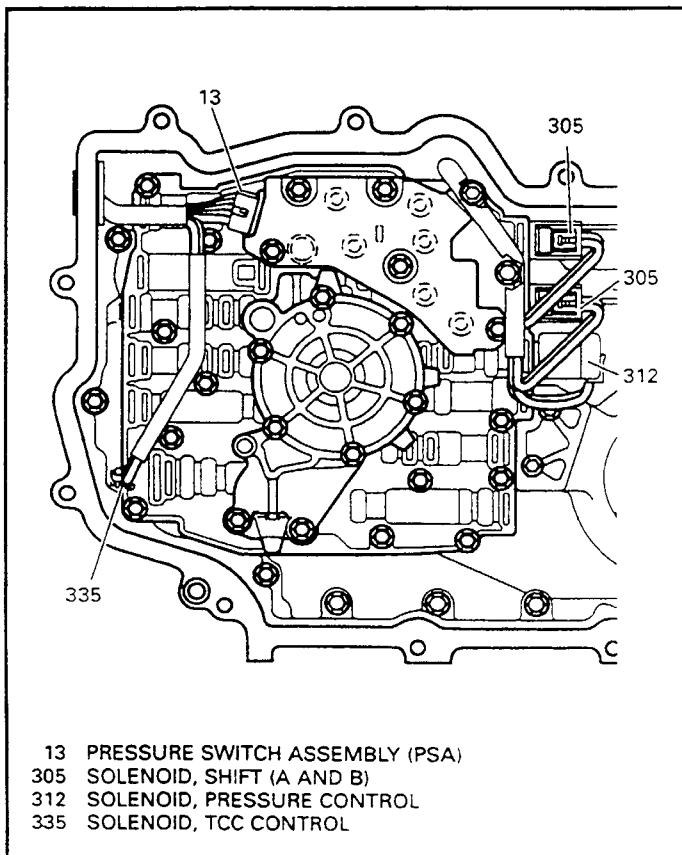

Figure 55
38. Disconnect the wiring harness connectors from the pressure control solenoid, 1-2 and 2-3 shift solenoids, pressure switch assembly, and TCC solenoid as shown in Figures 55 and 56.